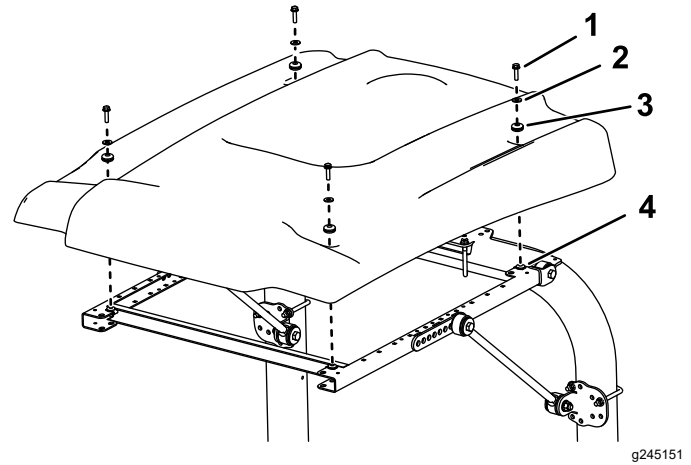

Figure 6
10. While aligning the mounting holes, position the sunshade onto the frame as shown in Figure 6.
11. Loosely mount each corner of the sunshade to the frame with a flange-head bolt (5/16 x 1-1/4 inches), a small washer, and a grommet (Figure 6).